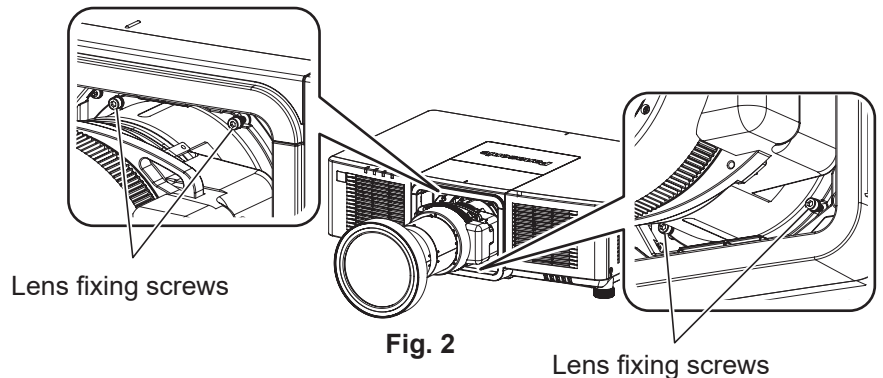

Fig. 2
- 7) **Attach the top slide cover. (Fig. 2)**
- For the Zoom Lens (Model No.: ET-EMU100), remove the lens fixing screws (4 locations) around the projection lens using the ball point hex driver supplied with the Zoom Lens (Model No.: ET-EMU100). (Fig. 2)